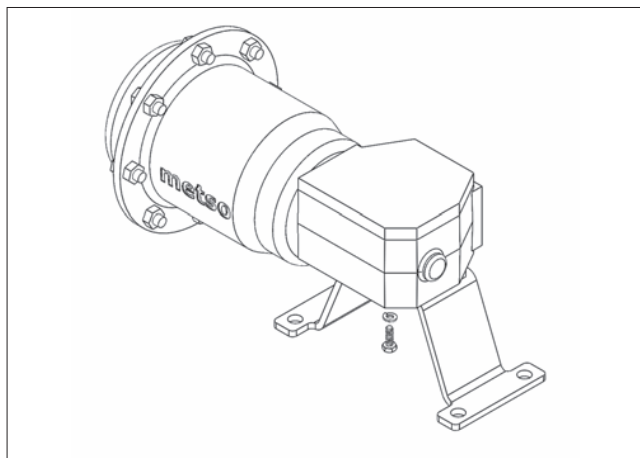

Figure 9.
8. A sealant is required between the seat tail and the body as shown in (in **Figure 9**). The valve uses PTFE paste sealant. This is installed in accordance with the following steps:
9. Verify the disc is in the level position and install the seat (5) and insert (2) (See **Figure 9**).